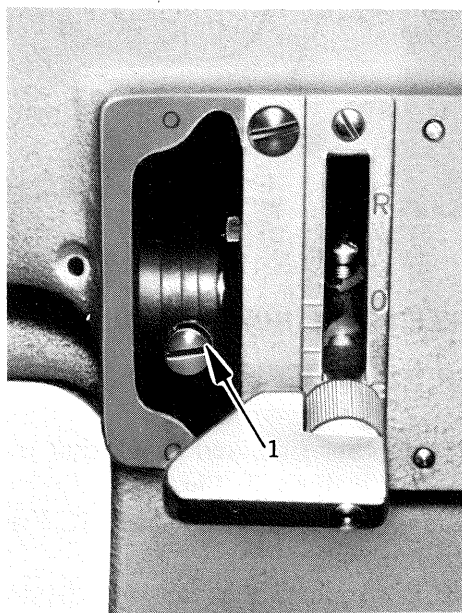

Fig. 17
3. Loosen the screw (1, Fig. 17)